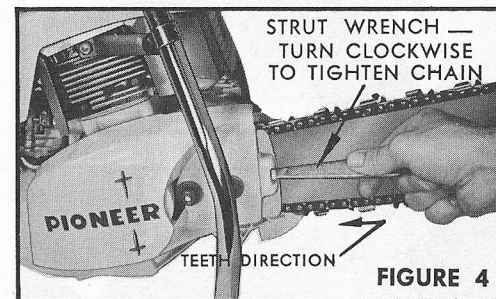
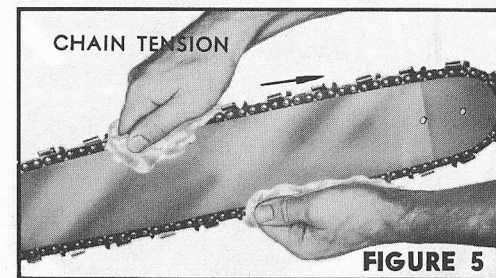

FIGURE 4
FIGURE 5
1. Install chain properly, with recommended chain tension. (See figure 5.)
4. Assemble the chain to the sprocket and cutter bar making sure that the cutting teeth direction is correct (figure 4).
6. Tighten chain, using the adjusting screw (figure 4). Then back off until the chain can be pulled freely around the bar by hand (figure 5). **CAUTION** — Use gloves or cloth to protect your hands.